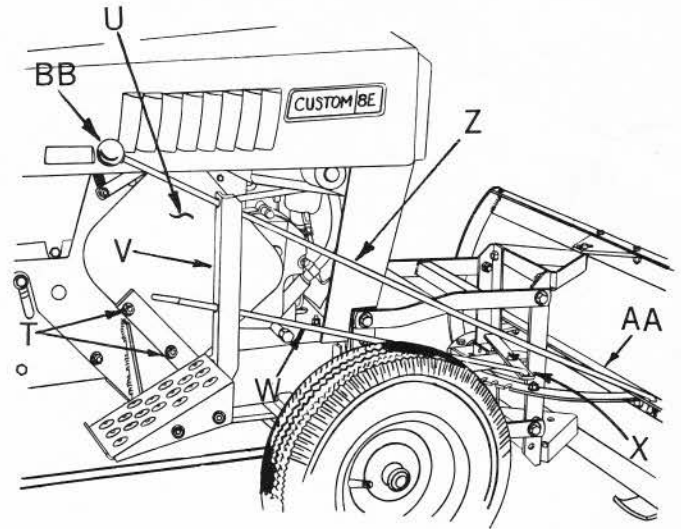

FIG. 5
12. Refer to Figure 5. Remove two bolts (T) from belt guard (U) and tractor, and assemble rod support and bracket (V) to belt guard (U) and tractor with two bolts (T) removed above. Tighten nuts securely.
13. Refer to Figure 5. Insert lock rod (W) into lower hole of rod support (V) with short bent end forward. Hook short bent end of lock rod (W) into hole of pivot arm weldment (X), and secure with  $1/8 \times 3/4$  cotter pin found in plastic bag. Spread cotter pin.
14. Refer to Figure 5. Insert blade rod (Z) (short bent end forward) through upper hole in rod support (V), and attach short bent end of rod in hole of center rail (AA) of blade and secure with  $1/8 \times 3/4$  cotter pin found in plastic bag. Spread cotter pin.
15. Refer to Figure 5. Screw knob (BB) found in plastic bag on rear (threaded) end of blade rod (Z) as shown.
To angle the bulldozer blade, push lock rod (W), Fig. 5 forward with foot which releases the latch and push or pull blade rod (Z), Fig 5, desired to blade position. Remove foot from lock rod to lock blade in proper position. There are seven blade positions: Straight across, three distinct angles to right, and three to the left.